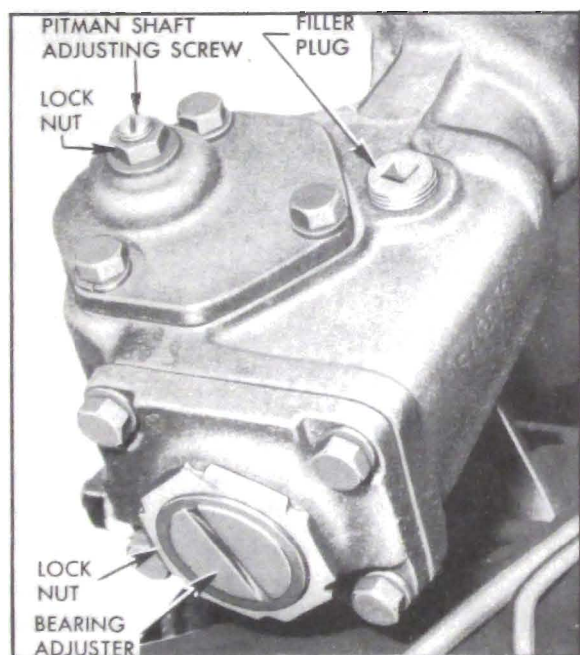

Figure 7-5—Steering Gear Adjustments
3. Check for lash between ball nut and pitman shaft by working the pitman arm. If a perceptible lash does not exist, loosen lock nut and turn pitman shaft adjusting screw counterclockwise, until lash can be felt when working pitman arm. See figure 7-5. This separates the worm thrust bearing load from the "high point" load caused by close meshing of ball nut and pitman shaft teeth.